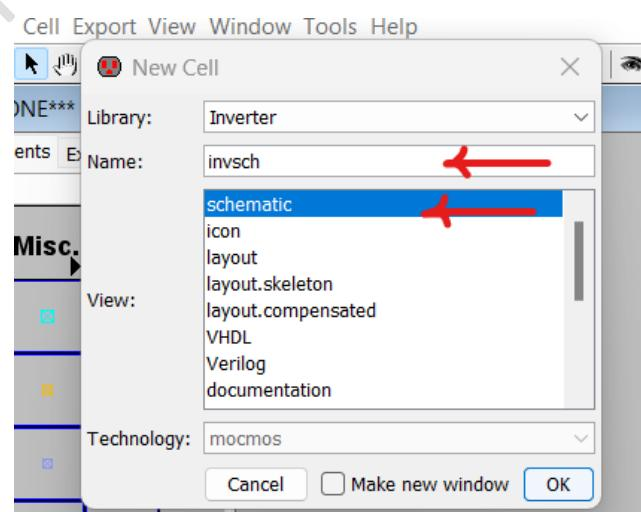

Figure 1.8: Selecting the schematic cell.
6. Select the schematic cell type and name it, for example, "invsch," then click OK (see Figure 1.8).